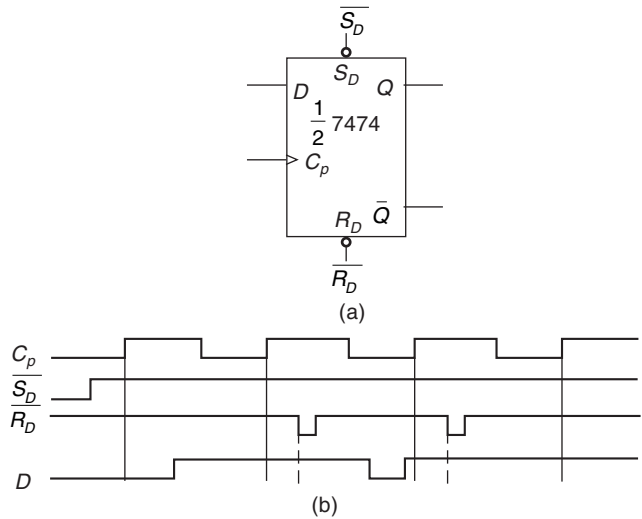

Fig. 12.33 (a) Logic Symbol and (b) Input Waveforms.
12.22 Sketch the output waveform at Q for the 7474 D flip-flop shown in Fig. 12.33(a) whose input waveforms are as given in Fig. 12.33(b).